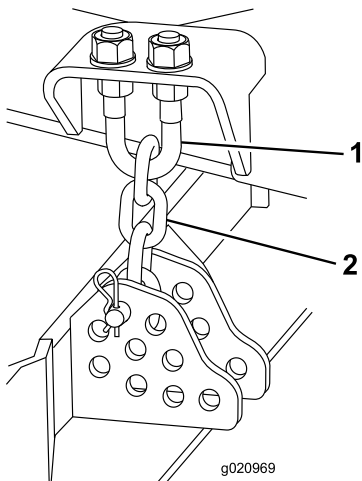

Figure 123
1. Loosen the jam nuts on the top or bottom of the height-of-cut-chain U-bolt (Figure 123).